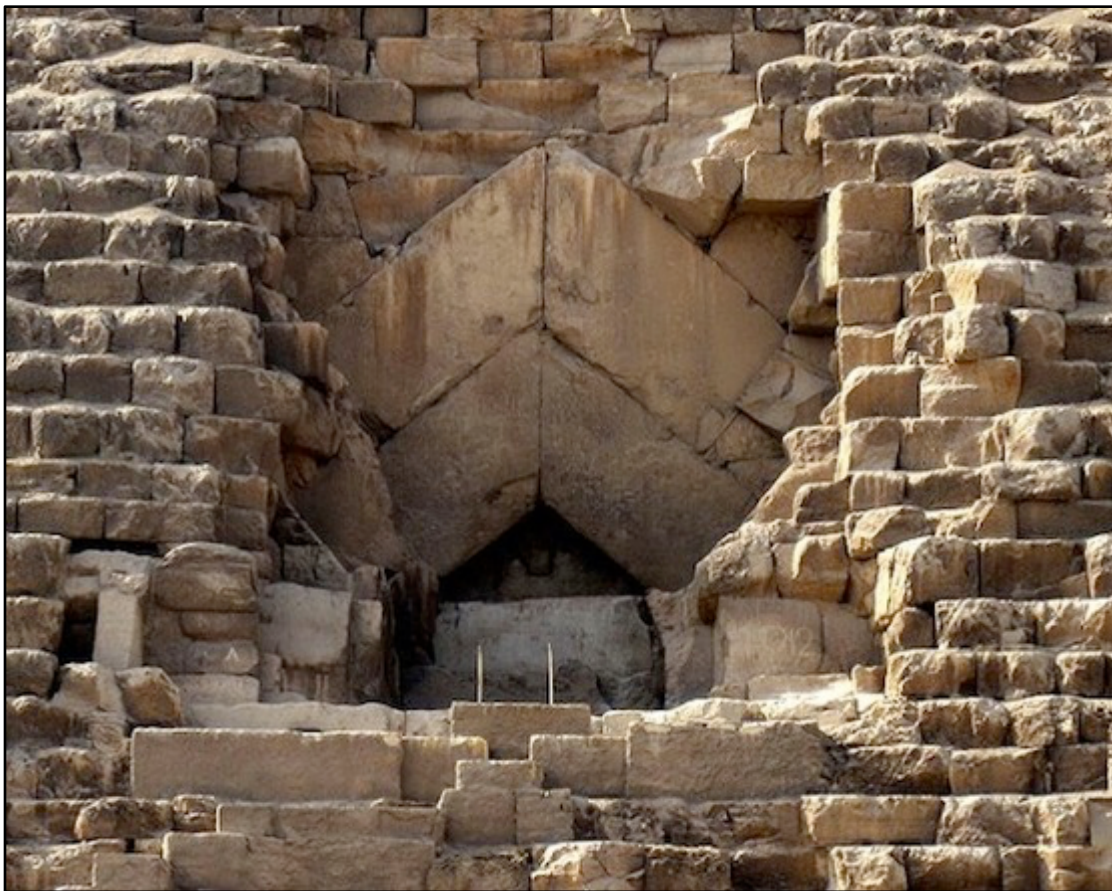

Figure 4. Remains Of Entrance Opening And Interior Swivel Door
- At one time, some pyramids had immense swivel doors to allow access into the interior. These doors were undetectable because they fit so perfectly into the openings within the pyramids. The swivel door to the interior of Cheops (Figure 4) weighed 20-tons, yet was so well balanced that one person could easily open it by a single hand